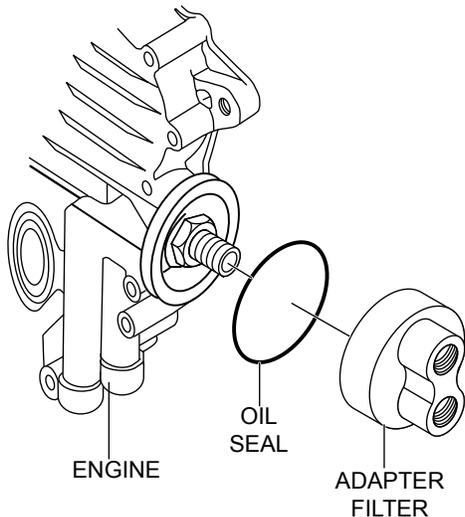

Figure 8. Engine Mounted Adapter Filter
3. Install the adapter filter and oil seal onto engine oil filter mount as shown in Figure 8.